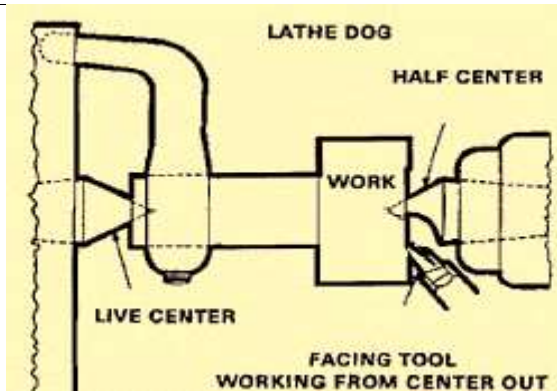

Figure 7-47. Facing using a side finishing tool and a half-male center.
**Facing Work Between Centers:** Sometimes the workpiece will not fit into a chuck or collet, so facing must be done between centers. To properly accomplish facing between centers, the workpiece must be center-drilled before mounting into the lathe. A half male center (with the tip well lubricated with a white lead and oil mixture) must be used in the lathe tailstock to provide adequate clearance for the tool bit. The tool bit must be ground with a sharp angle to permit facing to the very edge of the center drilled hole. (Figure 7-47).